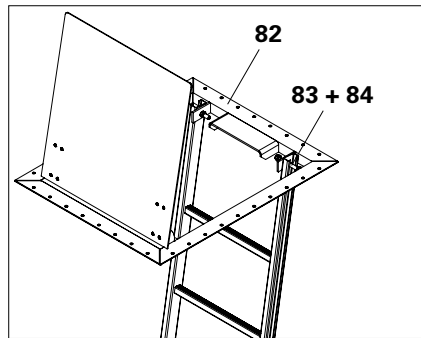

Fig. B5.11
- Lift ladder using the crane. Lower ladder through hatch opening (82).
- Fix ladder to the hatch from above using 2x bolts M12 x 40 and nuts (83 + 84). (Fig. B5.11)